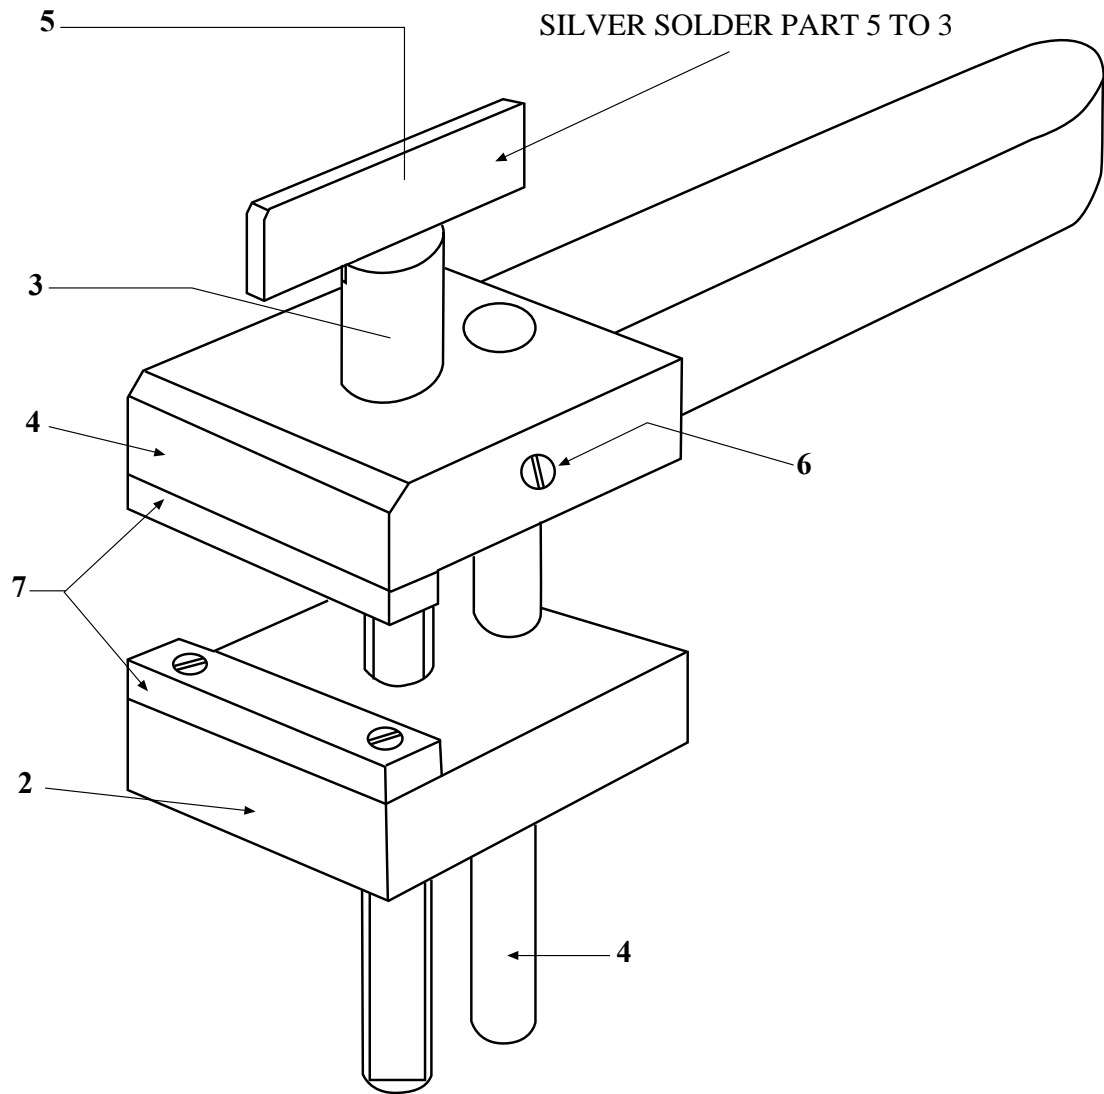

Figure 1
- (a) From the materials supplied, you are required to make an **ADJUSTABLE TOOL CLAMP** as shown in the diagram in **Figure 1**. Adjustments have been made for examination purposes only.